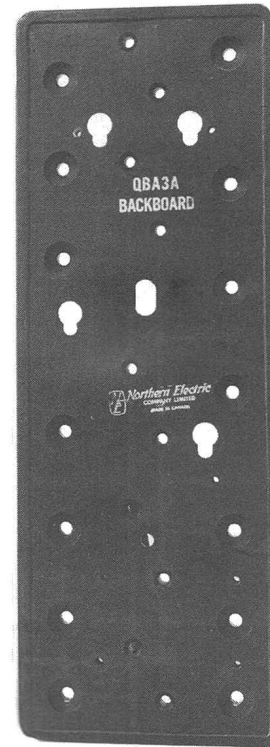

Fig. 4 — QBA3A Backboard for Wall Mounting
4.03 The backboards (Fig. 4 and 5), and the installation apparatus and accessories shown in Tables B through D are not supplied with the set. These items must be ordered separately.